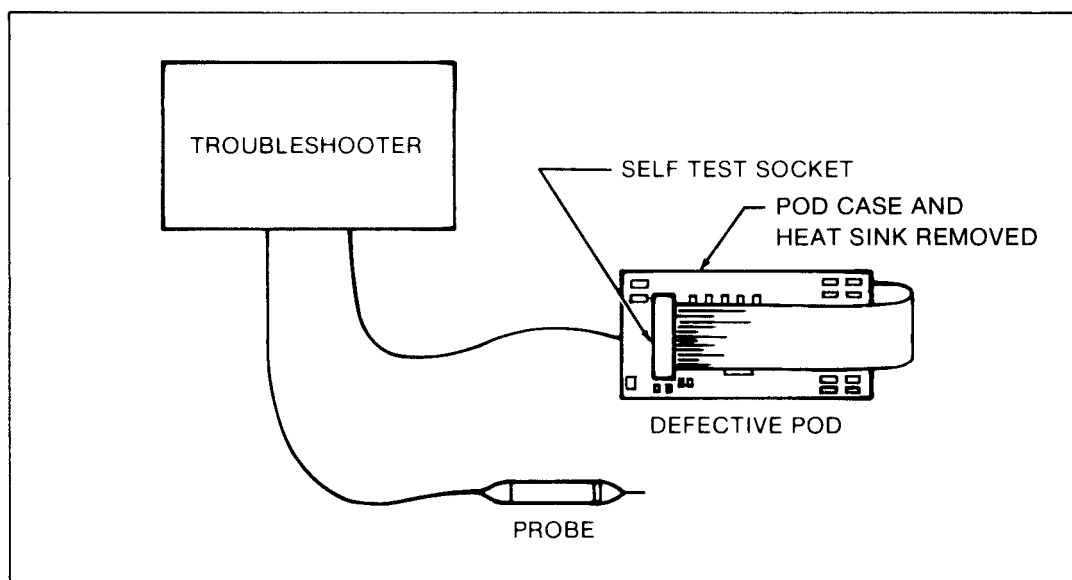

Figure 6-1. Troubleshooting a Defective Pod
3. Plug the pod ribbon cable into the self test socket and lock the socket as shown in Figure 6-1. Press the BUS TEST key to initiate the self test and then press the STOP key. Perform a *WRITE @ F0 00F0 = 0*; this disables the pod self test by preventing the pod from reporting to the troubleshooter that it is plugged into itself. (The pod self test may be reenabled by turning the troubleshooter power off and then on again, or by performing a *WRITE @ F0 00F0 = XX* where *XX* is any non-zero value.)